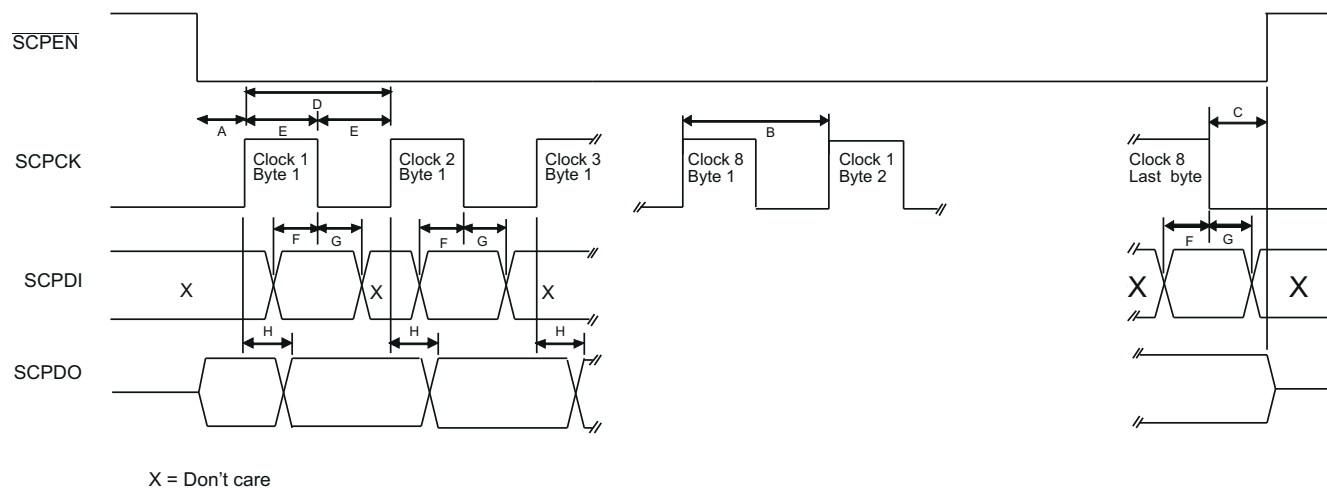

图 6-1. Serial Interface Timing
(1) See Figure 6-1
(2) There is no minimum speed for the serial port. It can be written to statically for diagnostic purposes.